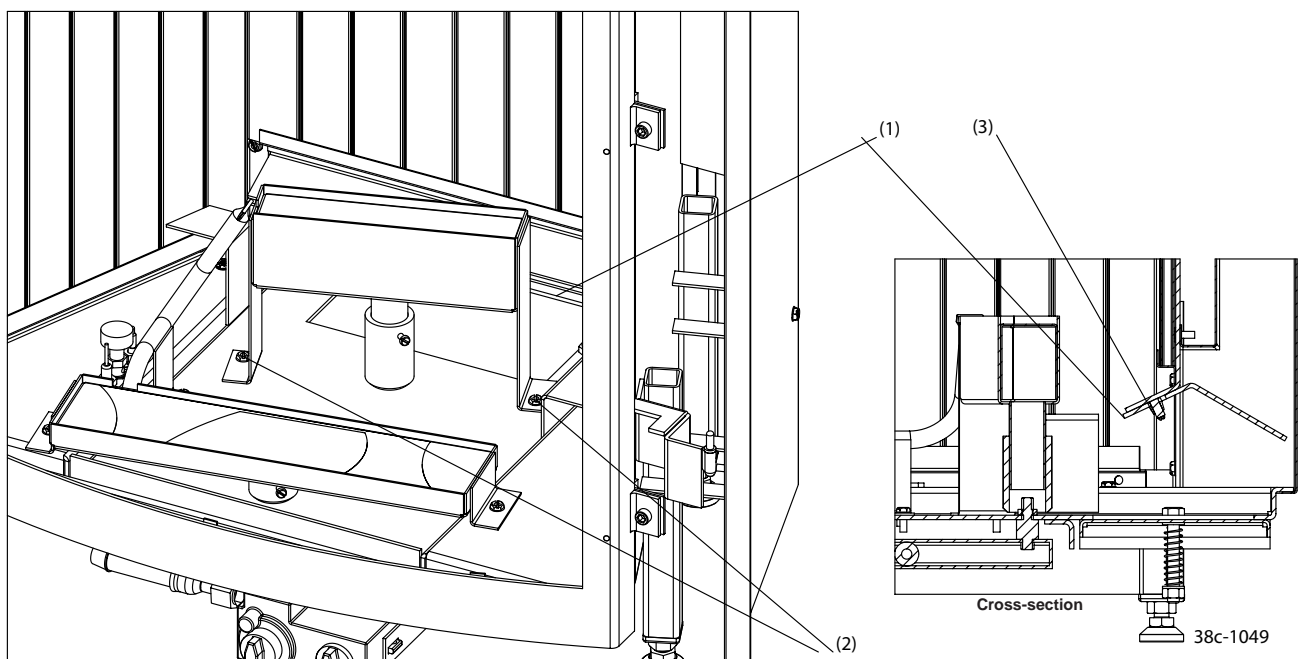

fig. 6
Removing the sliding air valve, see fig. 6: remove the back burner by unscrewing the two self-tapping screws (2).